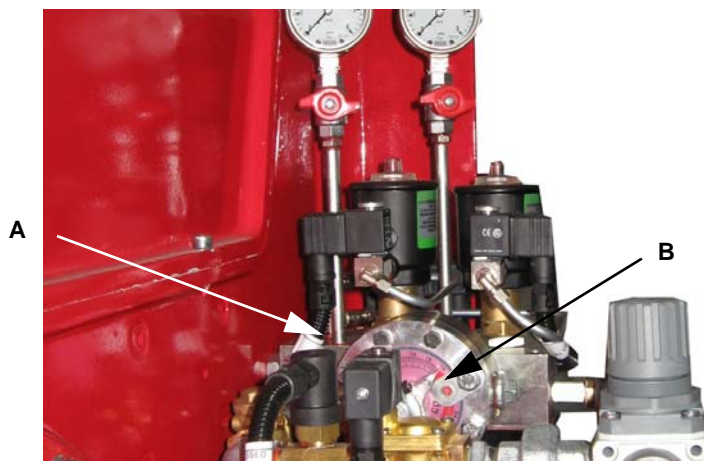

Fig. 35
- Remove and clean the compressed air governor **A** in Fig. 35
- Remove and clean the oil governor **B** in Fig. 35